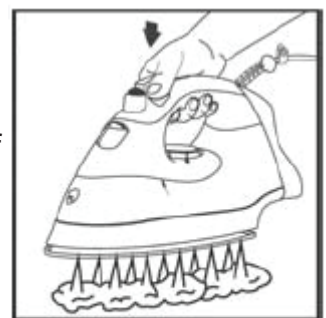

Fig. 2
- Lift the iron slightly above the surface of the fabric, press the Surge of Steam button down firmly and then release it during ironing (Fig.2).